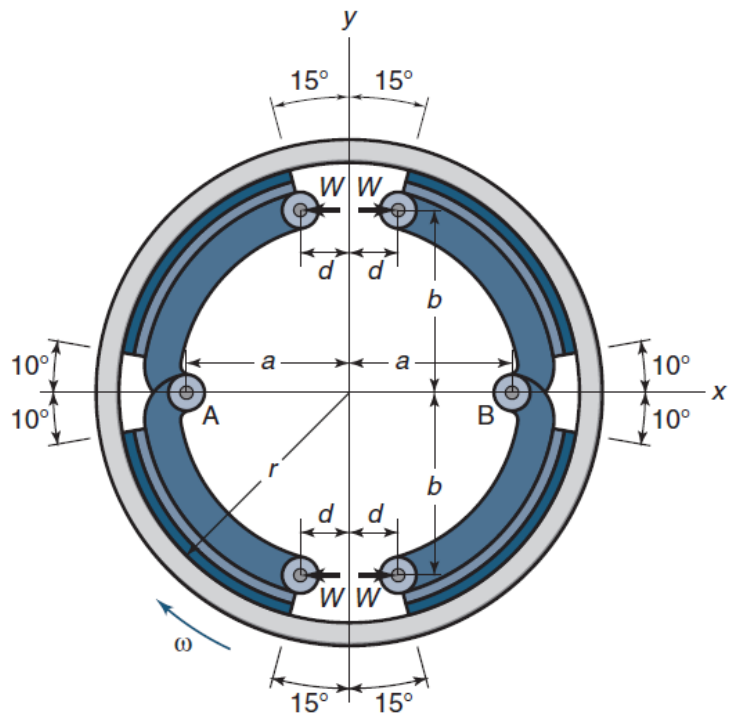

Figure 2
2. Figure 2 shows four long shoes in an internal, expanding rim brake. The brake drum has a 400-mm inner diameter. Each hinge pin (A and B) supports a pair of shoes. The actuating mechanism is to be arranged to produce the same actuating force W on each shoe. The shoe face width is 75 mm. The material of the shoe and drum produces a coefficient of friction of 0.24 and a maximum contact pressure of 1 MPa. Additional dimensions for use in Fig. 18.13 are as follows: $d = 50$ mm, $b = 165$ mm, and $a = 150$ mm.